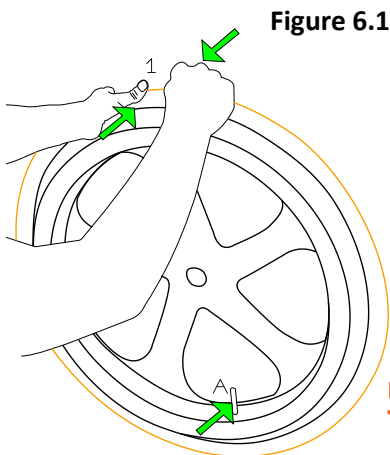

Figure 6.1
- Begin rocking the tyre side-to-side to break the old adhesive (Fig 6.1, 1).